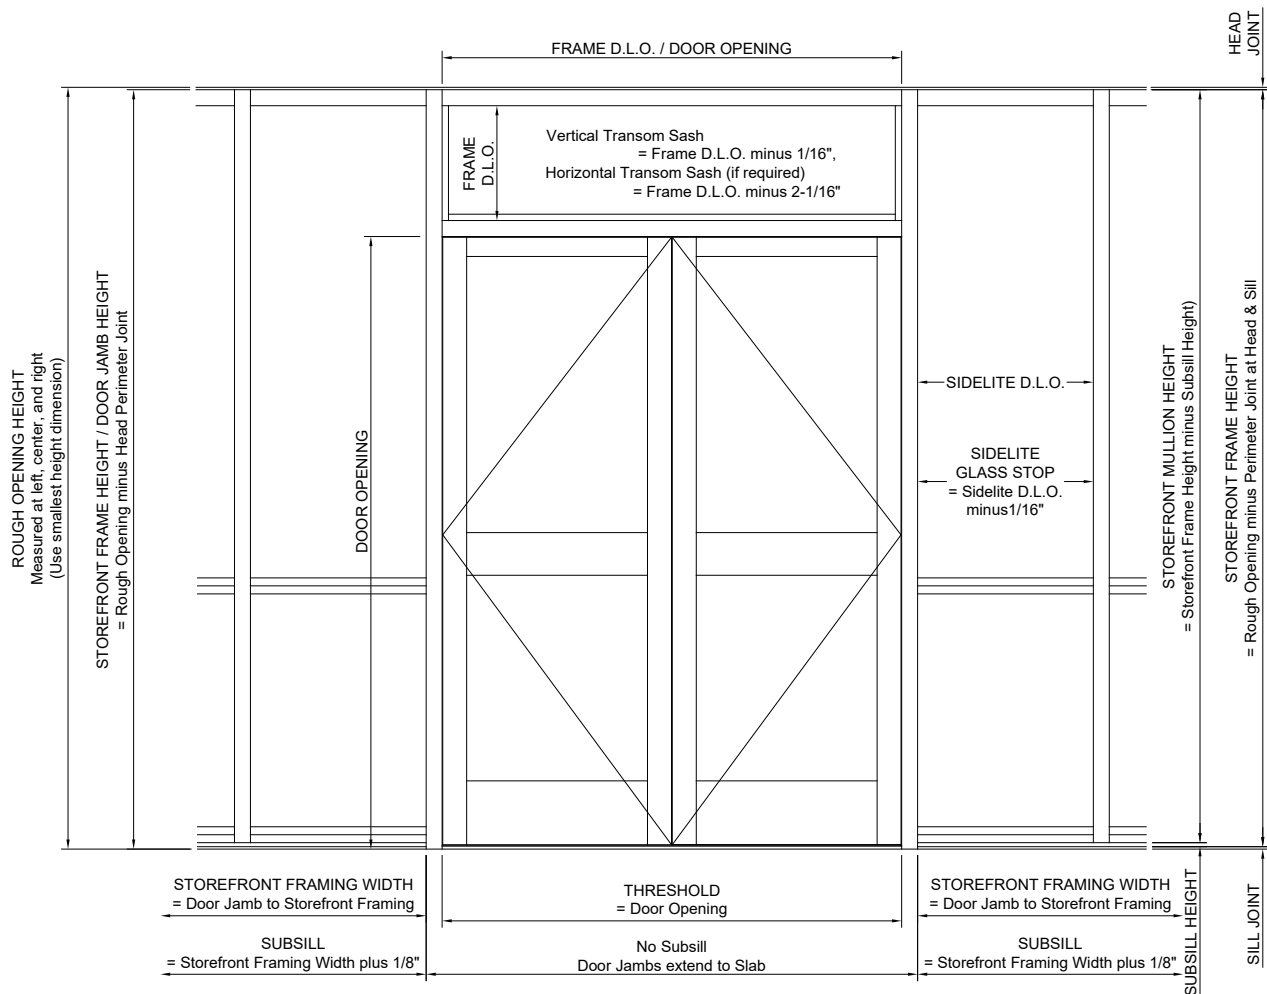

Figure 5: MSD-375/WSD-500 StormMax® Entrance in FG-5700/FG-5750/FG-5750T StormMax® Storefront
For installations where the MSD-375/WSD-500 StormMax® entrance is to be installed alongside an FG-5700/FG-5750/FG-5750T StormMax® storefront, the rough opening will determine overall storefront frame size and the Door Jamb will be sized and fabricated to the Vertical at Door measurement. Typically, the Door Jamb extends past Subsill to the slab or lower substrate. Verify the measurement with the associated storefront installation manual. For a typical visual, reference *Figure 5* below.
- 2.1.2 Stock transom frames are fabricated for a vertical frame size of 120". If the intended opening is smaller, cut the verticals and sash down to the appropriate length; leave a minimum 1/4" and a maximum of 1/2" caulk joint at the Head. Reference *Figure 5*.
- 2.2.3 Stock transom frames are fabricated for a vertical frame size of 120". If the intended opening is smaller, cut the verticals and the sash down to the appropriate length; leave a minimum 1/4" and a maximum of 1/2" caulk joint at the Head. Reference Figure 5.